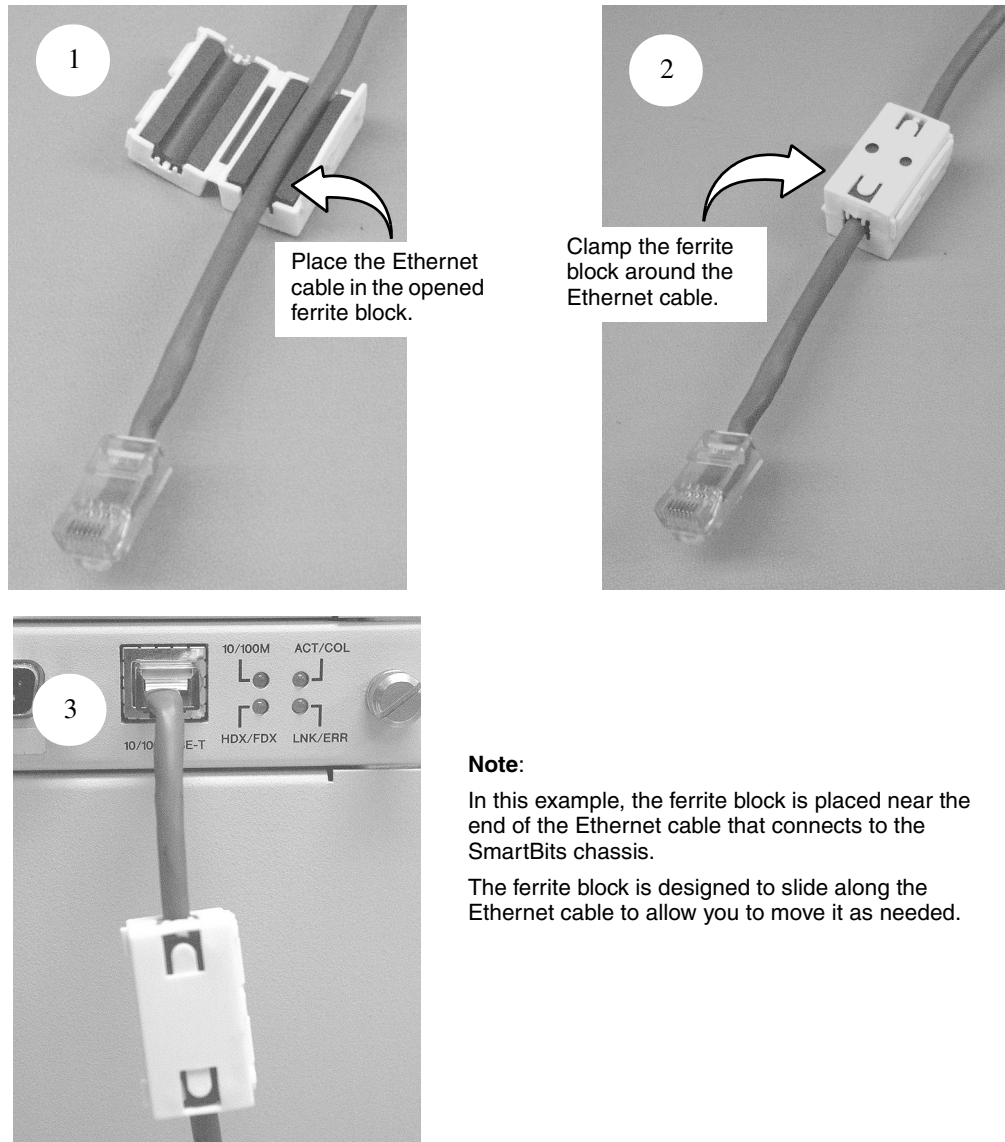

Figure 2-3. Ferrite Block Installation
- 2 Release the built-in clip on the side of the ferrite block and open it so that the center of the ferrite block faces up. Place the Ethernet cable in the open ferrite block (see Figure 2-3 on page 37, #1).
- 3 Clamp the ferrite block around the Ethernet cable making sure the built-in clip snaps together (see Figure 2-3 on page 37, #2).
- 4 Connect the Ethernet cable to the chassis (see Figure 2-3 on page 37, #3).